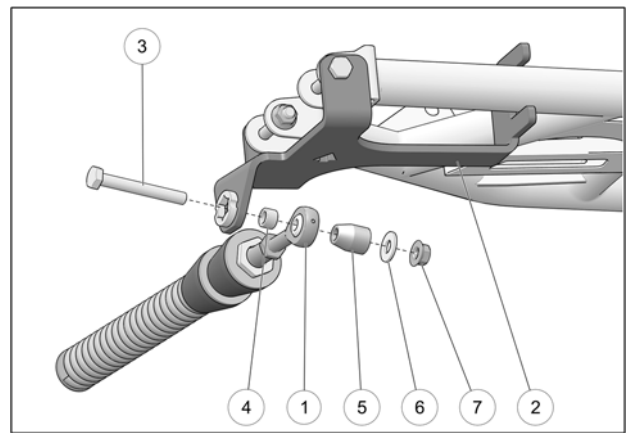

Fig. 8
- Attach stabilizing rod (1) to anchor bracket (2), using bolt (3), short spacer bushing (4), long spacer bushing (5), flat washer (6) and nut (7). Torque to 70 N•m [52 lb•ft]. See Fig. 8